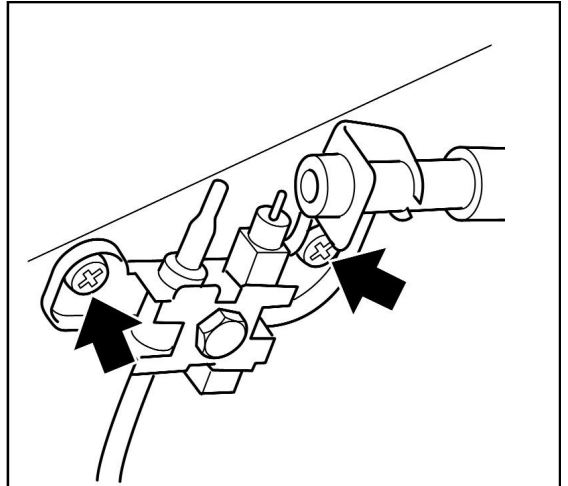

Figure 48. Pilot unit removal
5. Remove the two screws securing the pilot unit to the burner (See figure 48).